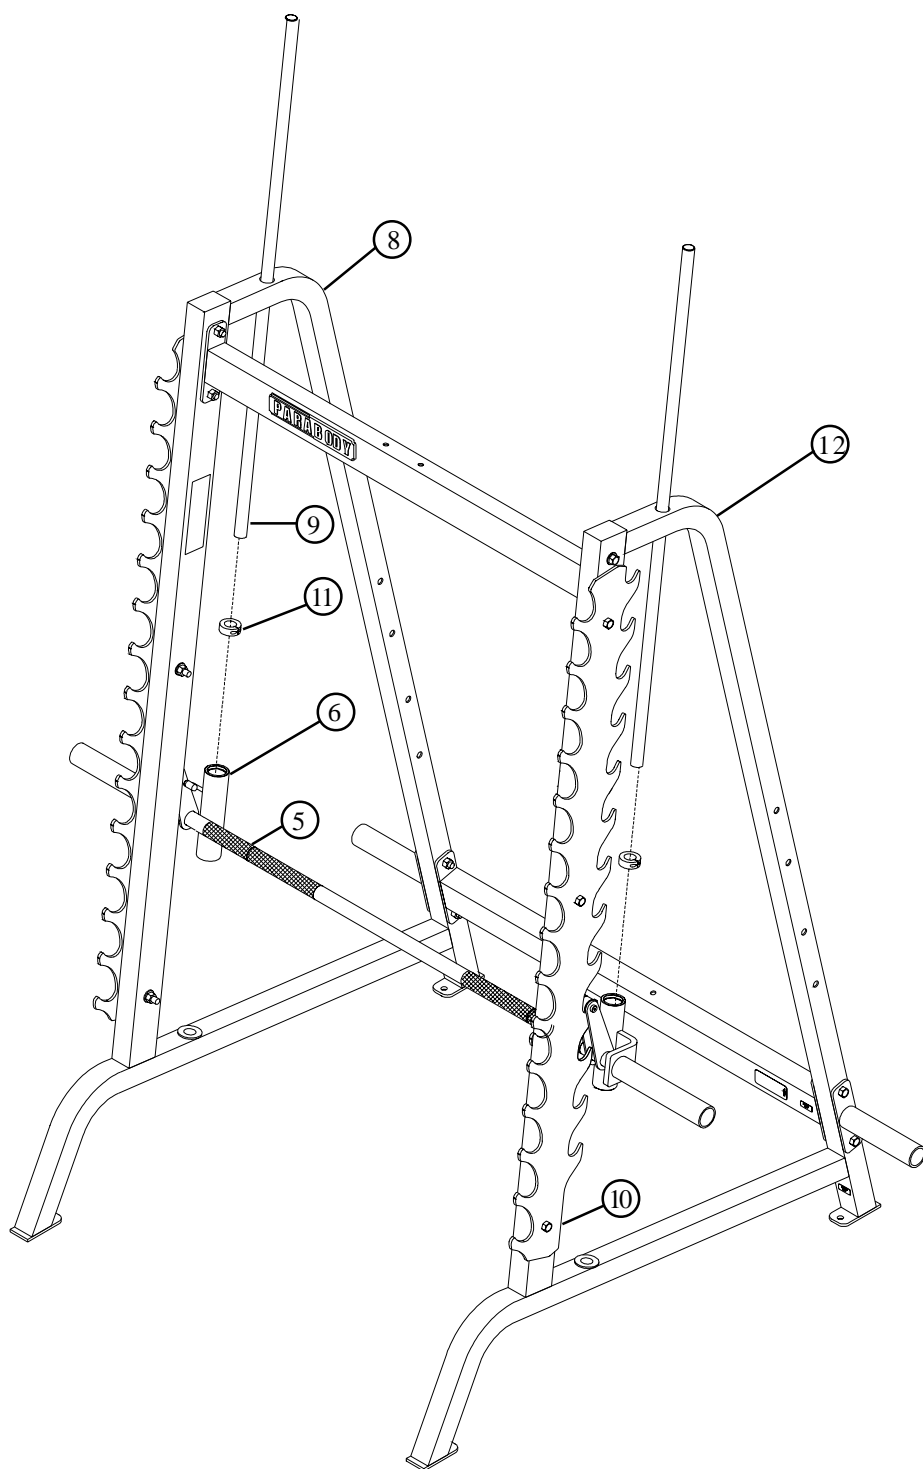

**FIGURE 2**
- Insert the shaft of the HOUSINGS(6) into the ends of the SMITH BAR (5) as shown in FIGURE 2.